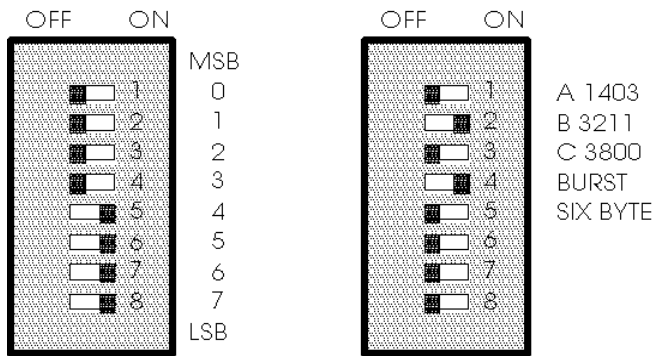
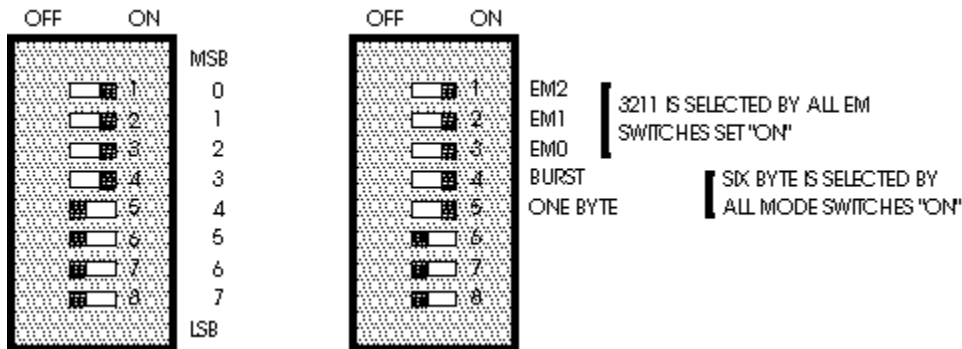

Figure A-1. Printer DIP switch settings (for Xerox 4050, 4090, 4650, 8700 or 9700 printers).
Figure A-2. Printer DIP switch settings (for Xerox 4060 or 4075 printers).
- Set the printer's address DIP switches to 0F as shown in Figure A-1 (for Xerox 4050, 4090, 4650, 8700 or 9700 printers) or as shown in Figure A-2 (for Xerox 4060 or 4075 printers).
- Set the printer's system configuration switches to emulate an IBM 3211 printer in "Burst" Mode, again as shown in Figure A-1 or A-2.